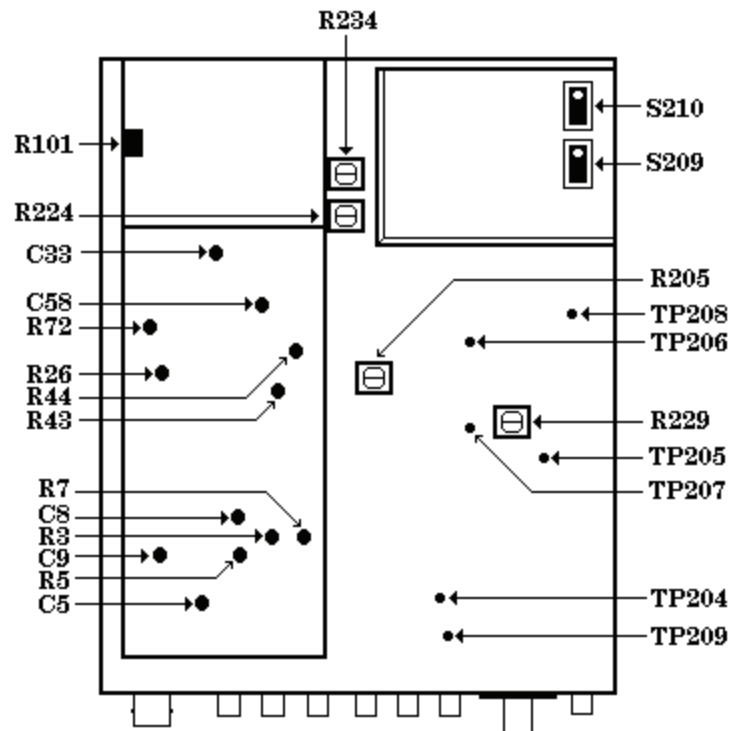

Figure 1. Test points and adjustment locations - top view.
b. Observe that slide switches S209 and S210 (fig. 1) are set for proper 120 V operation (both slide switches to left with white dot toward rear).
All test points and adjustments are shown in figure 1. Remove top cover only to make connections or adjustments and replace immediately upon completion.
- (1) Connect calibrator **OUTPUT HI** and **LO** to **TI INPUT**.
- (2) Press and release all front panel pushbuttons to out position, except **LO RANGE ENABLE** and **POWER**.
- (3) Connect a short between TP204 and TP209 (fig. 1).
- (4) Set calibrator for a 1 V, 500 Hz output. Record TI indication.
- (5) Press **RANGE HOLD/AUTO** pushbutton to **HOLD**.
- (6) Set calibrator for a 0.1 V, 500 Hz output. If TI does not indicate one-tenth of value recorded in (4) above, perform **b** (1) and (2) below.
- (7) Press and release **RANGE HOLD/AUTO** pushbutton to **AUTO**.
- (8) Set calibrator for a 2.5 V dc output.
- (9) Press **FUNCTION AC+DC/AC** pushbutton to **AC+DC**. If TI does not indicate between 2.388 and 2.612 V, perform **b** (3) below.
- (10) Set calibrator for a 0.25 V dc output. If TI does not indicate between 0.2388 and 0.2612 V, perform **b** (4) below.
- (11) Press and release **FUNCTION AC+DC/AC** pushbutton to **AC**.
- (12) Set calibrator for voltages and frequencies listed in table 3. If TI does not indicate within limits specified, perform appropriate adjustments.
- (13) Remove short connected between TP204 and TP209 (fig. 1).
¹Interaction exists between R44 and R205 (fig. 1). Repeat both adjustments as required.
²Interaction exists between C8 and C5 (fig. 1). Repeat both adjustments as required.
- (1) Adjust R101 (fig. 1) until TI indicates one-tenth of value recorded in **a** (4) above (R).
- (2) Press and release **RANGE HOLD/AUTO** pushbutton to **AUTO** and repeat **a** (4) through (6) above.
- (3) Adjust R72 (fig. 1) until TI indicates between 2.49 and 2.51 V (R).
- (4) Adjust R26 (fig 1.) until TI indicates between 0.249 and 0.251 V and repeat **a** (8) through (10) above (R).